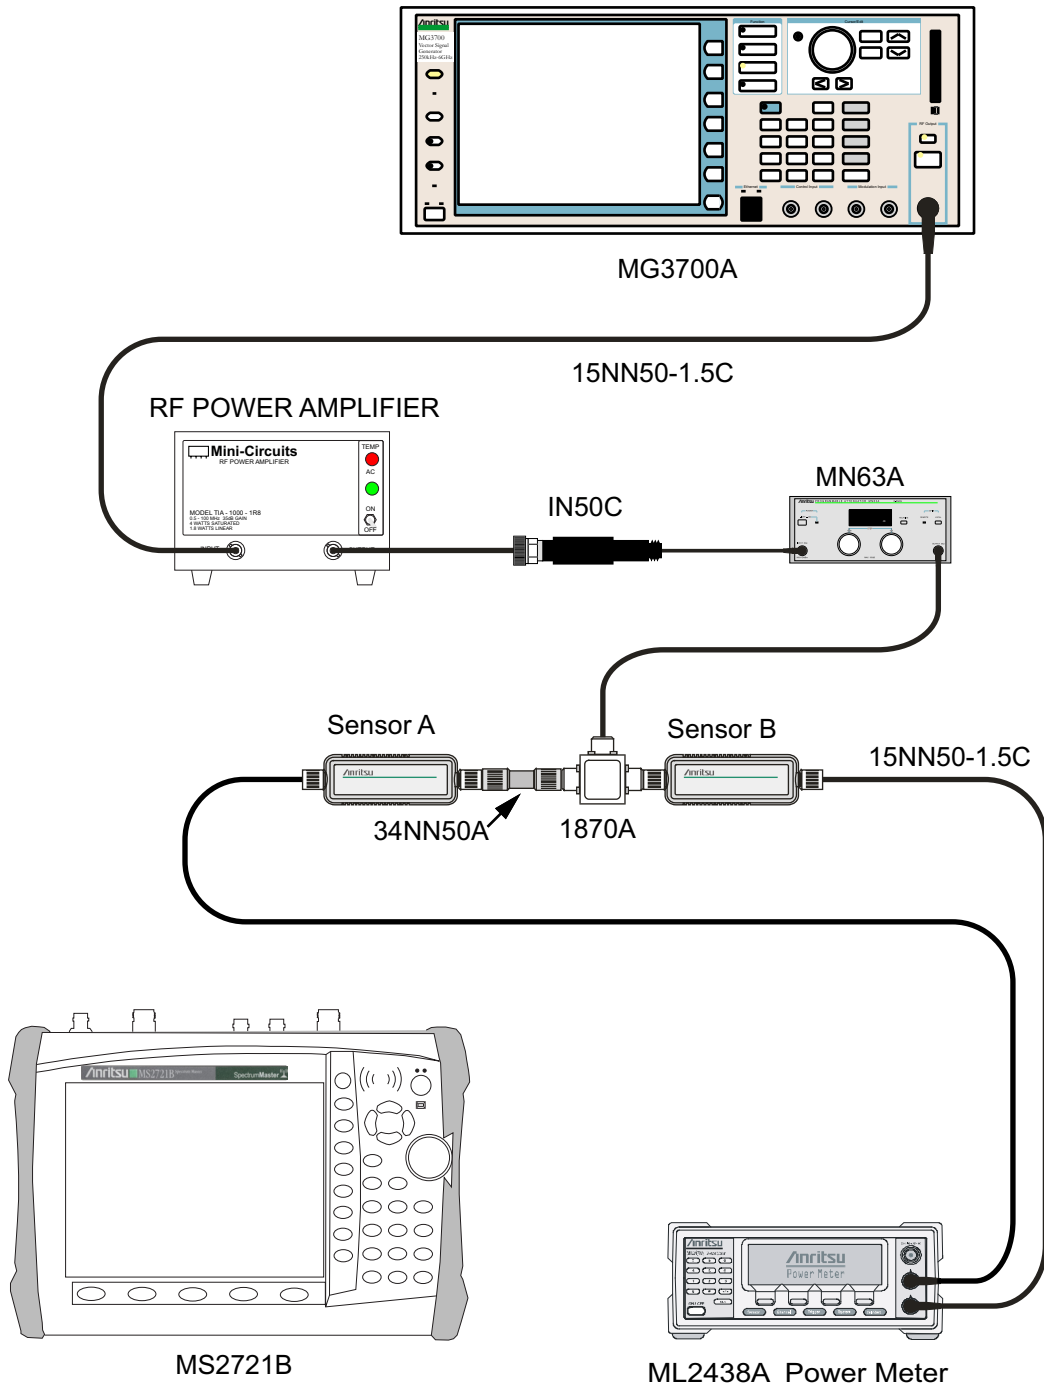

Figure 3-21. DVB-T/H Option 64 and Option 57 – Level Accuracy Verification – Two Sensors
2. Connect the MG3700A Signal Generator, Power Amplifier with N(f)-to-BNC(m) adapters, RF Limiter, MN63A Programmable Attenuator, Power Divider, Power Meter, and Power Sensors as shown in Figure 3-21.
52. Turn off the power amplifier, disconnect the power splitter from the MS2721B, and reconnect Sensor A to the power splitter as shown in Figure 3-21, “DVB-T/H Option 64 and Option 57 – Level Accuracy Verification – Two Sensors” on page 3-80.